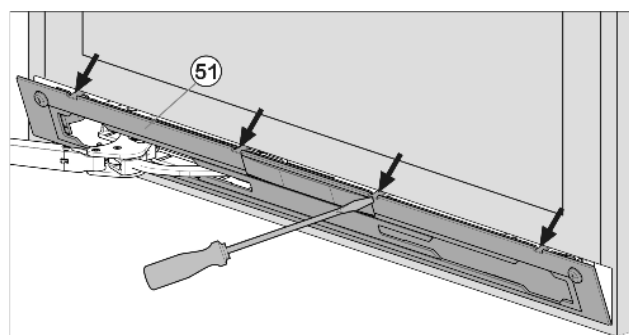

Fig. 18
- Release panel Fig. 18 (1) using slotted screwdriver and remove.